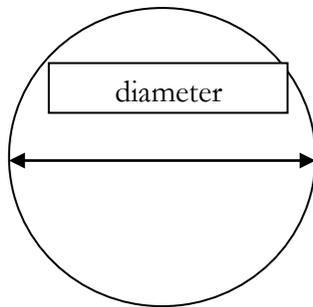

Figure 2.
1. Take the large PVC pipe and measure its diameter. See figure 2. The radius is  $\frac{1}{2}$  the diameter. Record the radius on the observation sheet.